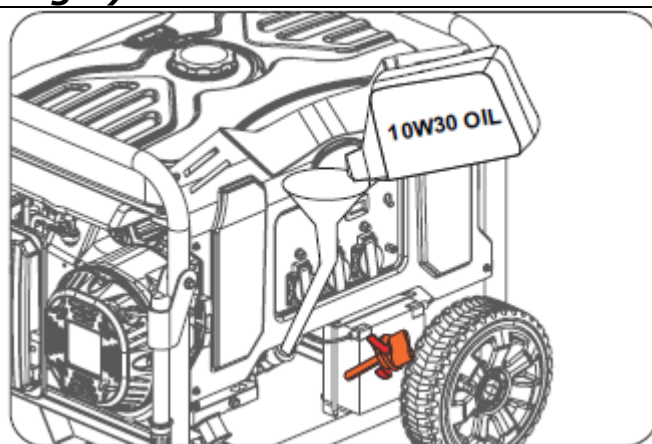

Fig.7
7.1 Adding / Checking Engine Oil (See Fig.7)